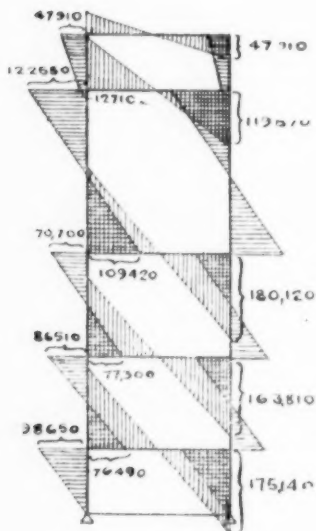

Fig. 29.
The calculation is best computed in tabular form (see Table 1). First, the adjustment  $X_1 = \frac{S_0}{S_1}$  is calculated. Secondly, the moment-line of the adjustment  $X_1$  produces a new static moment  $S_{X1}$ . Thirdly,  $S_{X1}$  produces a second adjustment  $X_2 = \frac{S_{X1}}{S_1}$ , and so on. The series converges rapidly and can be stopped as desired for plasticity. The whole adjustment without plasticity is  $\sum X = X_1 + X_2 + \dots$  and this gives values (as a check) near enough to the values of the elastic equation (3). Fig. 29 gives the final moment diagram.